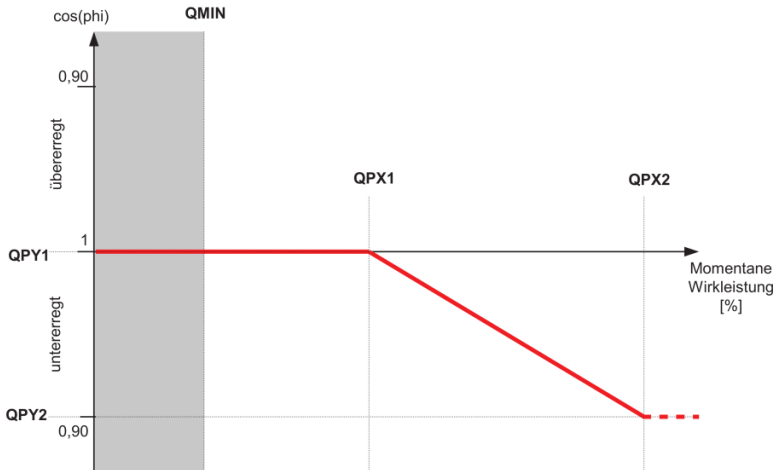

Figure 24: Q(P) characteristic
- **QPX1 QPX2:** Enter the settings for QPX1 and QPX2 by using the numerical input fields. You can find the settings in Figure 24.